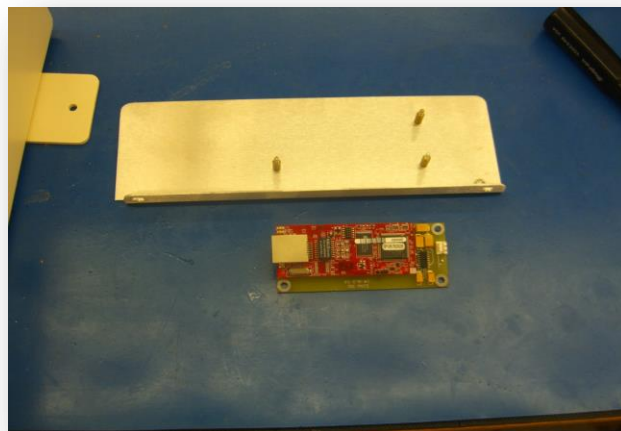

Figure 51 – Internal Rabbit Ethernet Board Removal
4. Remove the three nuts from the corners of the Ethernet board. See Figure 51.